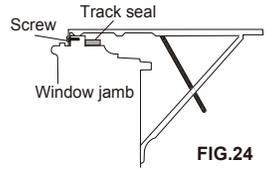

FIG.24
**27 Screw the platform assembly to the window jamb** through the pilot hole you drilled in Step 25. Use a #8 x 3/4" self-threading screw (FIG.24).